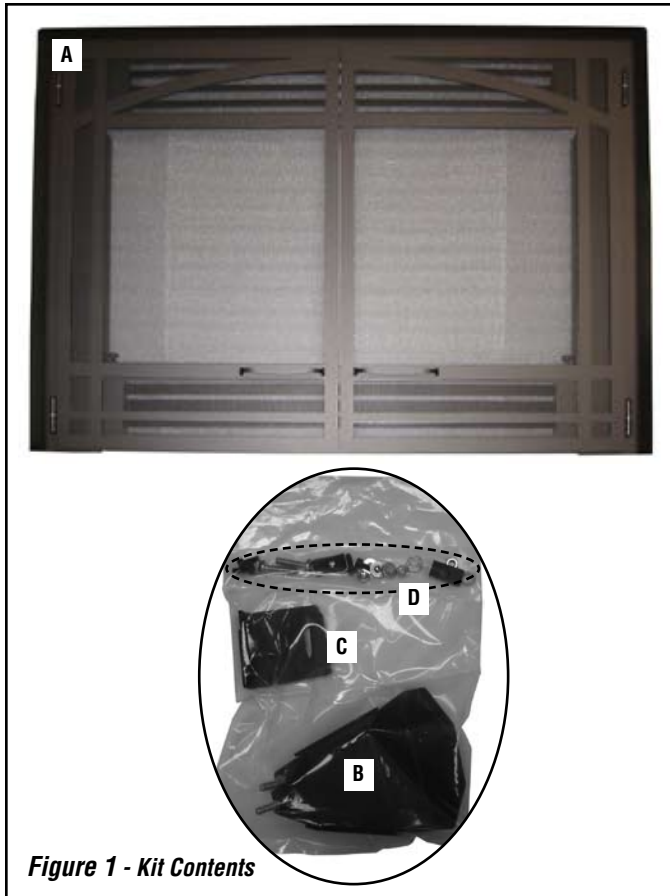

Figure 1 - Kit Contents
### KIT CONTENTS (See Figure 1):
**Step 1.** Ensure the reveal corner is positioned as shown in *Figure 1*. If it needs to be adjusted to the position shown in *Figure 1*, see *Page 12* of the *Installation and Operation Manual*.